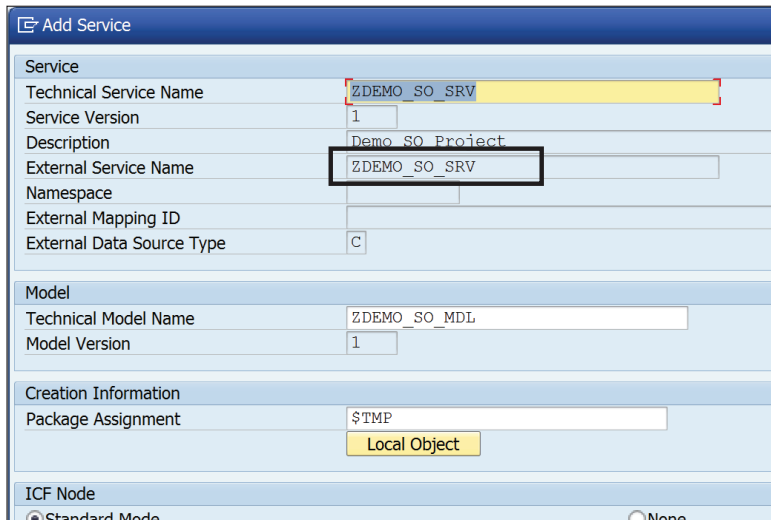

Figure 19.114 Add Service Window
3. In the ADD SERVICE window, as shown in Figure 19.114, make a note of the EXTERNAL SERVICE name. This name is used to access the service.